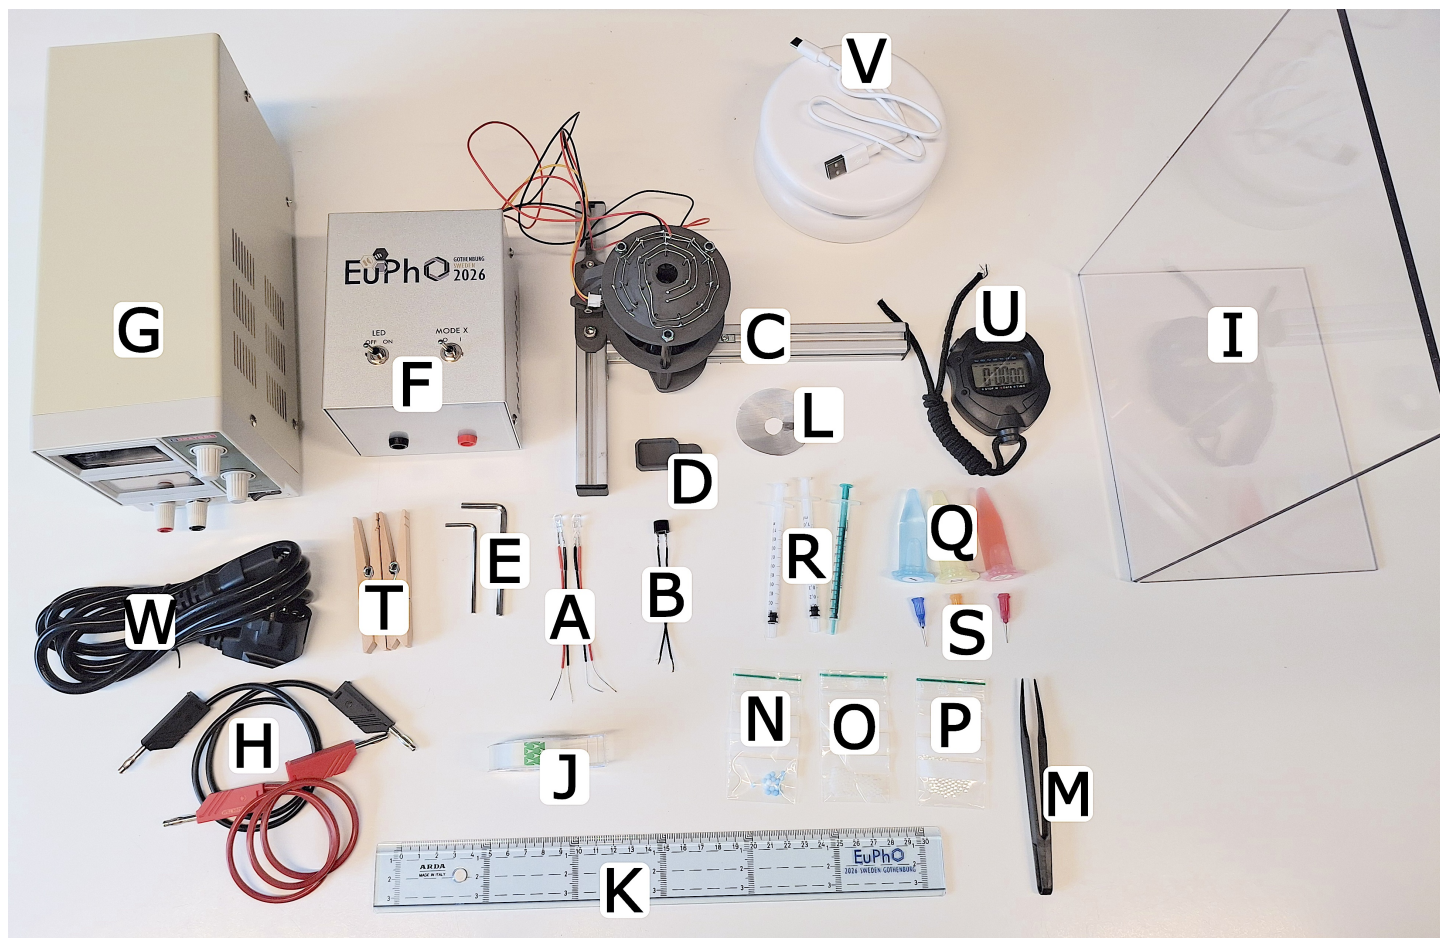

Figure 1: Overview of the equipment.
For the following tasks, consider only the nodes on the  $z$ -axis. For task E3 and onward, use only the centremost node. The Mode X switch on the electrical box (F), see Fig. 1, should be in position O.